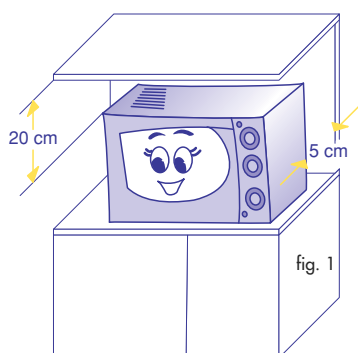

fig. 1
- 5) **After having placed the oven on its work level, make sure that there is still a free space of at least 5 cm. between the oven's surfaces and the side as well as back walls, and a free space of at least 20 cm. above the oven (see Fig. 1).**